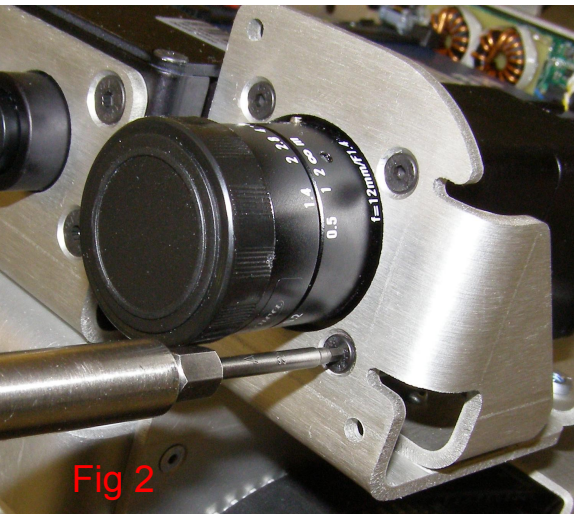

Fig 2
- Using the 2mm bit together with the T-handle driver, remove the 4 mounting screws. (Fig. 2)